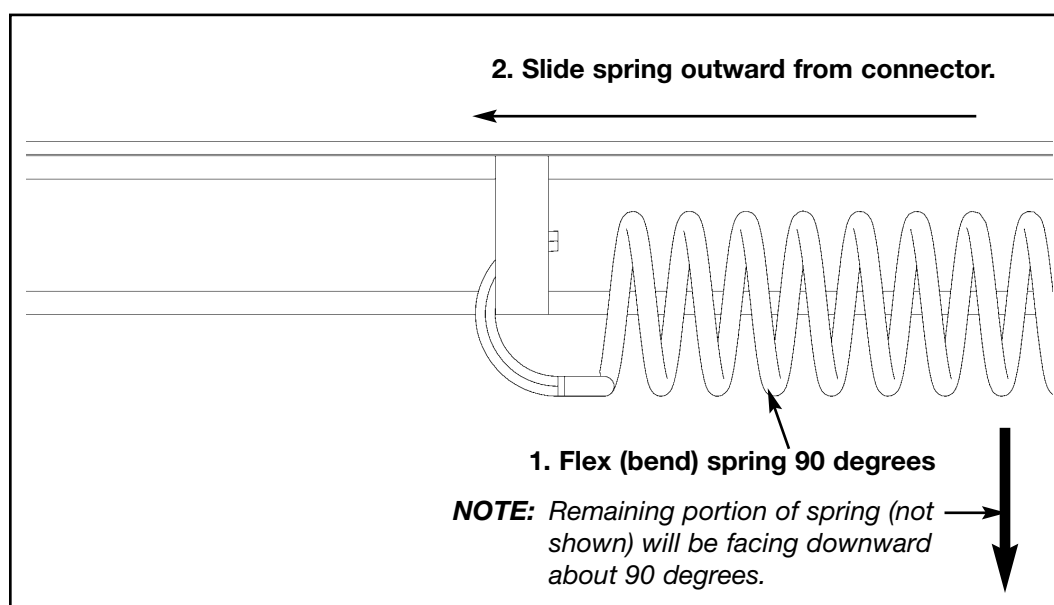

Figure 3
**B.** Flex (bend) upper part of spring approximately 90 degrees. See Figure 3.
**C.** Slide hook outward and remove from connector. See Figure 3.